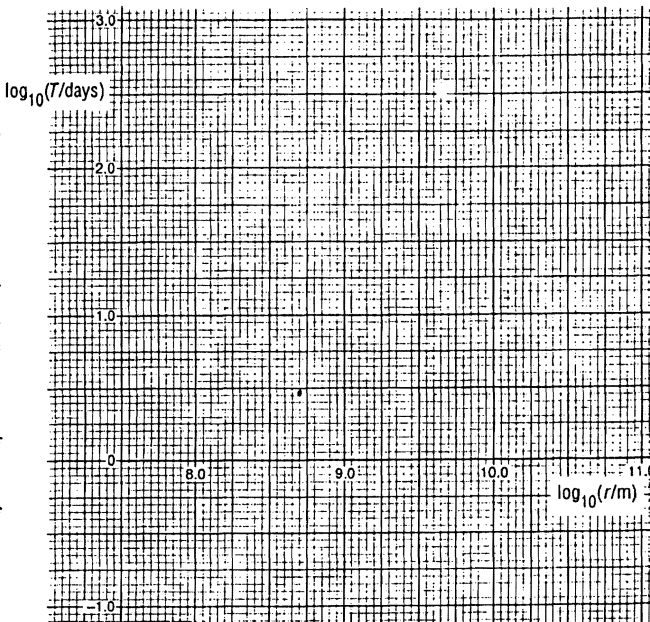

Fig. 33
(ii) On the axes of Fig. 33, plot a graph of $\log_{10}(T/\text{days})$ against $\log_{10}(r/m)$. [4]
- (c) (i) Determine the gradient of the graph in Fig. 33.
- (d) Observation shows that the moon Ganymede orbits Jupiter with a period of 7.16 days. Use the graph of Fig. 33 to estimate the orbital radius of Ganymede. [2]
- (f) Suggest whether the graph of Fig. 33 could be used to check data on the orbital radii and periods of the moons of another planet (e.g. Saturn). [2]